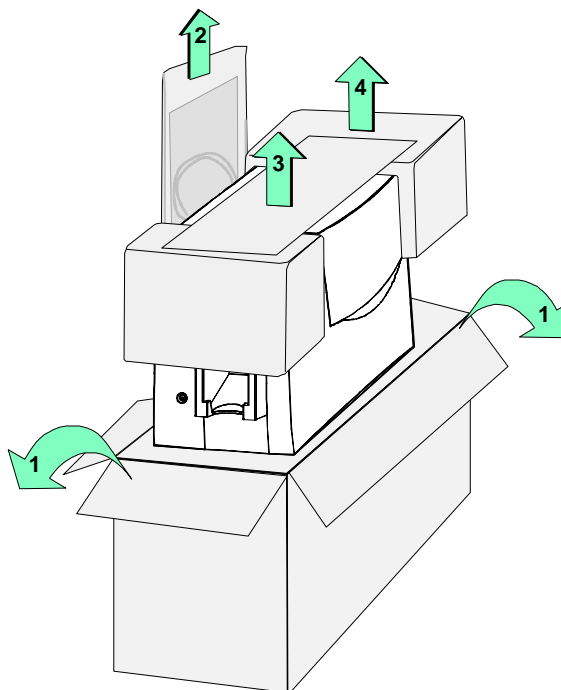

Figure 7-1: Unpack the printer
- 3 Open the shipping carton (step 1 in Figure 7-1).
- 4 Remove the accessories bag (step 2 in Figure 7-1).
- 5 Remove the Quick Install Chart from the carton (step 3 in Figure 7-1). The options included with the printer are checked on the chart.
- 6 Lift the printer from the carton (step 4 in Figure 7-1) and place it on a counter or other solid surface.